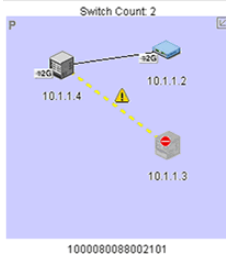

Figure 56 Removed connection in a persisted fabric
- If one or some of the connections are disabled (but not all), the enabled connections display as black lines and the disabled connections display as yellow, dashed lines with an interswitch link (ISL) alert (Figure 56).